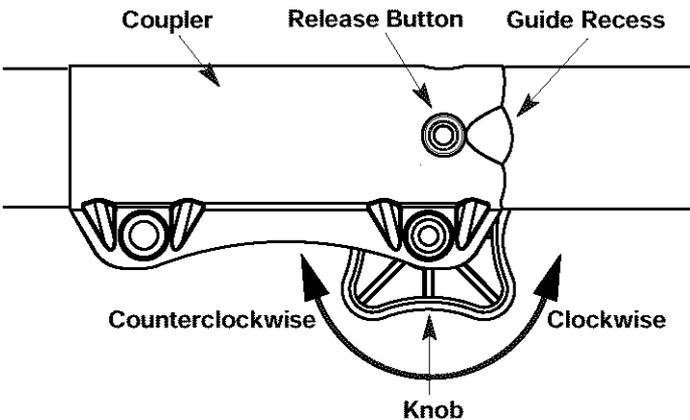

Fig. 5
1. Turn the knob counterclockwise to loosen (Fig. 5).
2. Press and hold the release button (Fig. 5).
2. Turn knob counterclockwise to loosen (Fig. 5).
**NOTE:** Aligning the release button with the guide recess will help installation (Fig. 5).